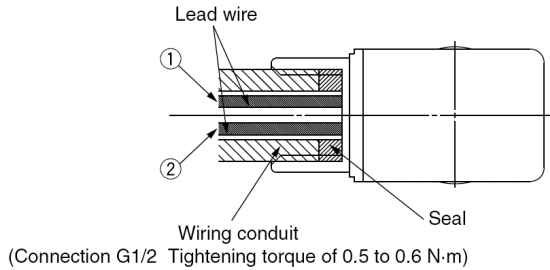

Figure 7
- Tighten conduit to torque shown in Figure 7.